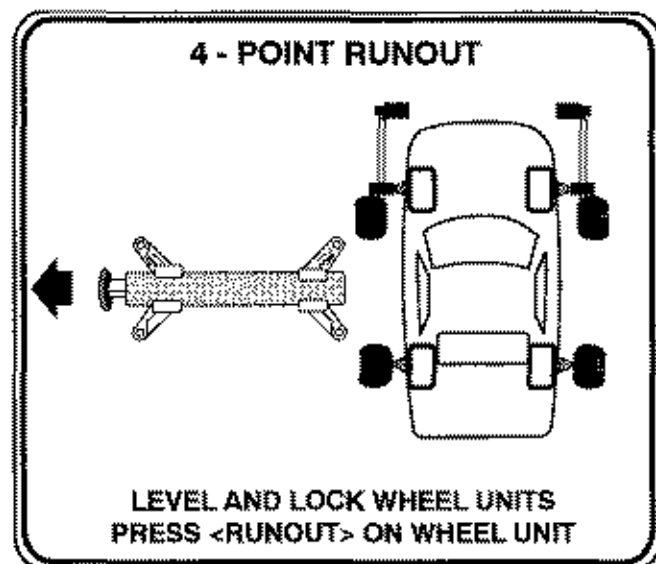

Figure 2-40
3. The screen shown in Figure 2-40 appears.